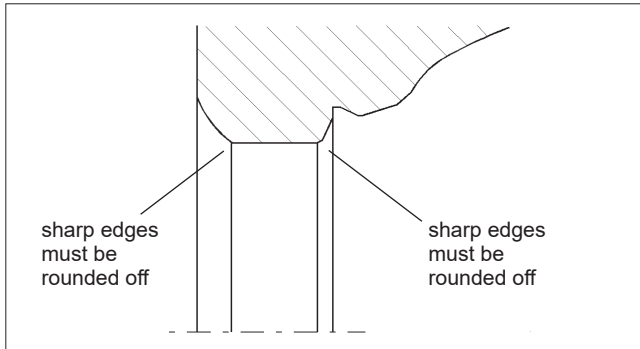

Fig. 14 Rounding the sharp edges
- Clean the flow port that houses the seat. Remove any burrs. Round off the edges using a fine abrasive paper and clean the flow port carefully, see Fig. 14.